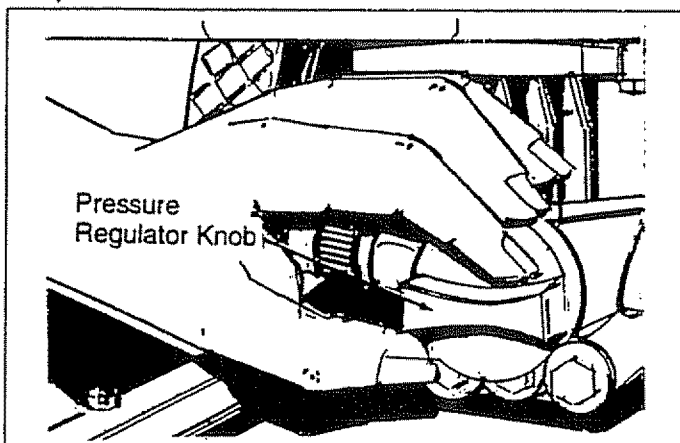

FIG. 17
- You can also adjust the pressure by turning the Regulator Knob (Fig. 17) to the desired pressure setting. Turning this knob all the way clockwise produces the highest pressure.